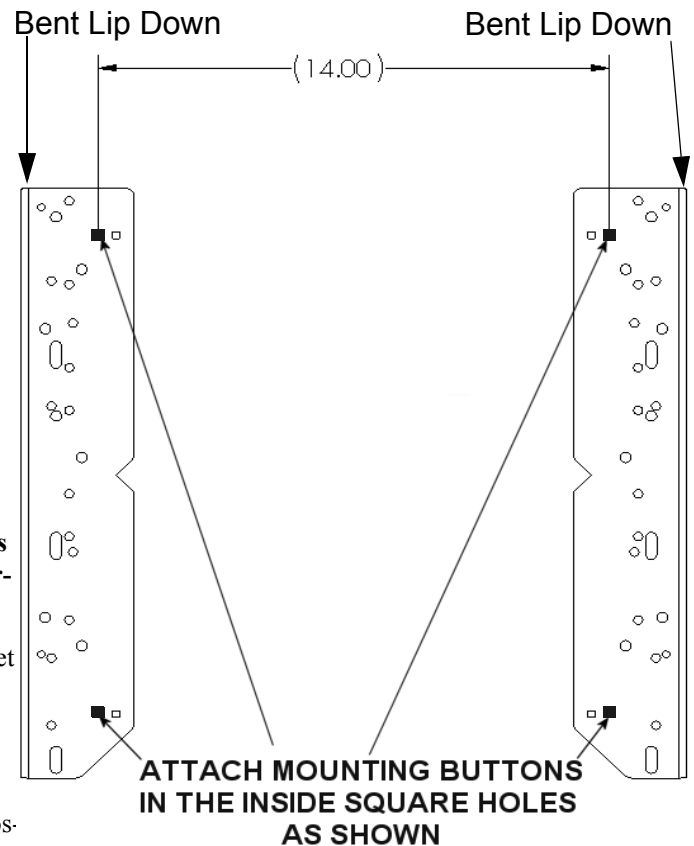
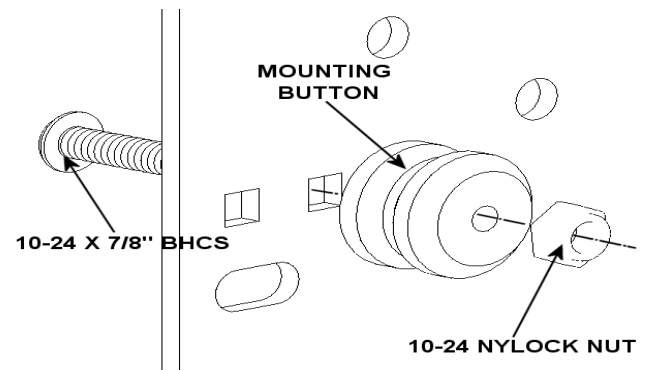

Figure 2. Brackets for Groups 1-8 with Bent Lip Down
Figure 3. Button Installation for Groups 1-8
Each interface bracket has 4 square holes for attaching mounting buttons (See Figure 2). These holes are arranged in a 14" vertical spacing pattern. When the proper hole pattern is used, the mounting buttons will form a 14" square (horizontal and vertical) pattern when installed on your Large Flat Panel display. The following steps will explain how to attach the mounting buttons in the proper square holes for your specific Flat Panel Display model.
1. Lay the brackets out with the bent lip of each interface bracket down (see Figure 2).
3. Using the mounting buttons and hardware in the parts bag labeled A, attach the mounting buttons in the square holes closest to the middle (inside) of each interface bracket (see Figure 2 and Figure 3).